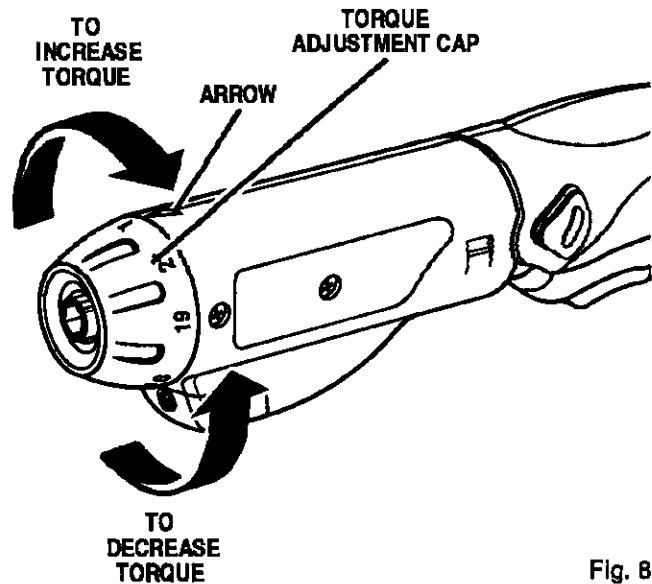

Fig. 8
See Figure 8.
- To increase or decrease torque, rotate torque adjustment cap in the direction of the arrows as shown in Figure 8.